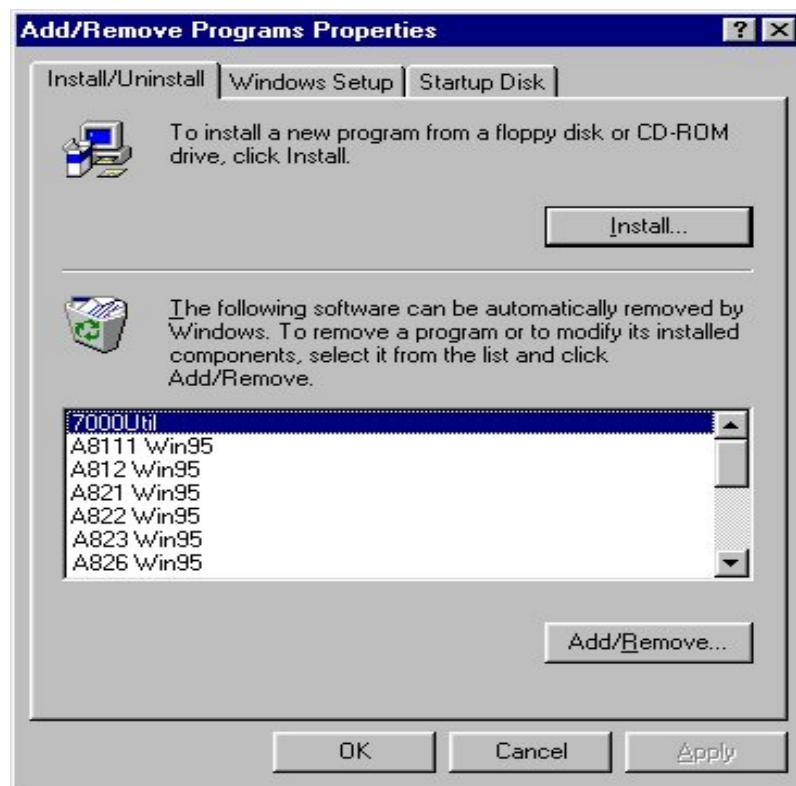

Figure 2-3-3. To uninstall the software, select “7000Util” and click on the “Add/Remove” button.
- Select the “**7000UTIL**” item and click the “Add/Remove...” button to uninstall it, as shown in Figure 2-3-3.